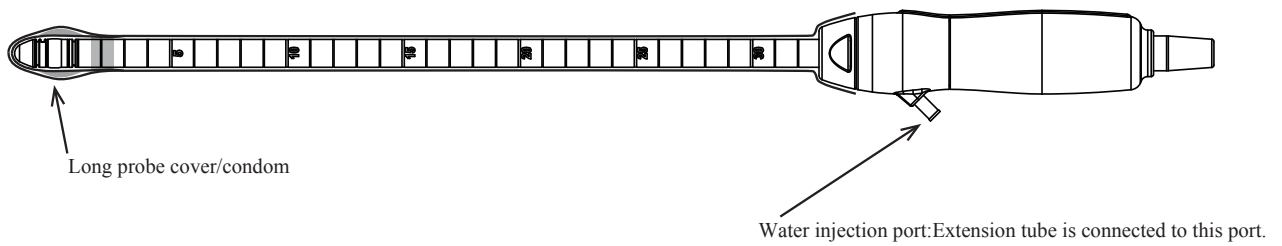

Figure 4 Mounting a long probe cover
- (3) Mount a long probe cover on the probe and cover the acoustic part of the probe. (Figure 4)
- (4) Inject physiological saline in the short probe cover by the syringe to remove air bubbles.
- (5) After removing air bubbles, draw all physiological saline back into the syringe.